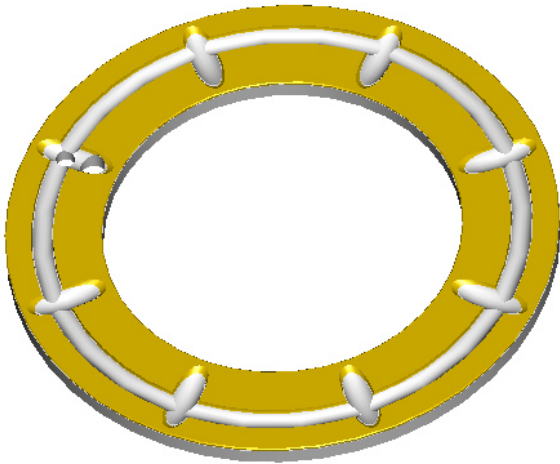

Fig.30: Standard bronze thrust bearing, "mark 2"
- 1.a Bronze, mark 2, (latest version), refer Figure 30, Page 22